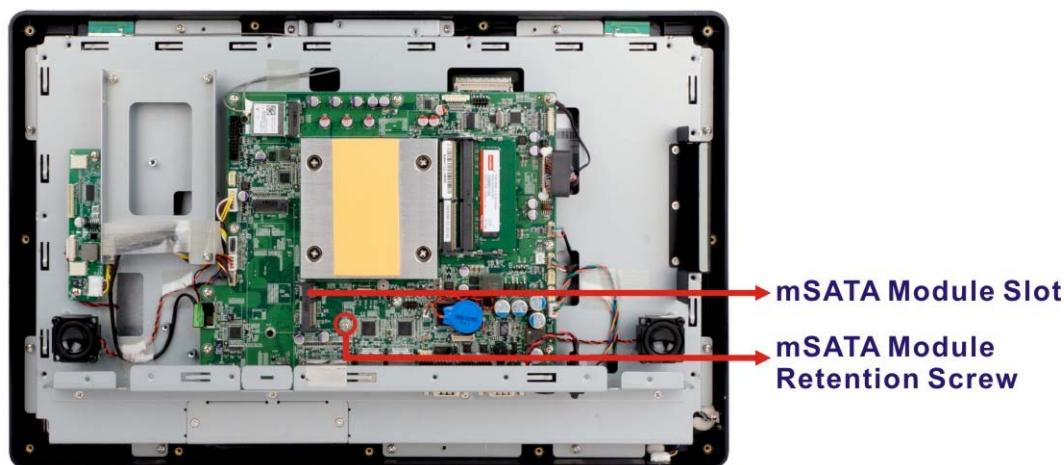

Figure 3-9: mSATA Module Slot Location
Step 2: Locate the mSATA module slot. Remove the preinstalled retention screw on the screw pillar as shown in **Figure 3-9**.